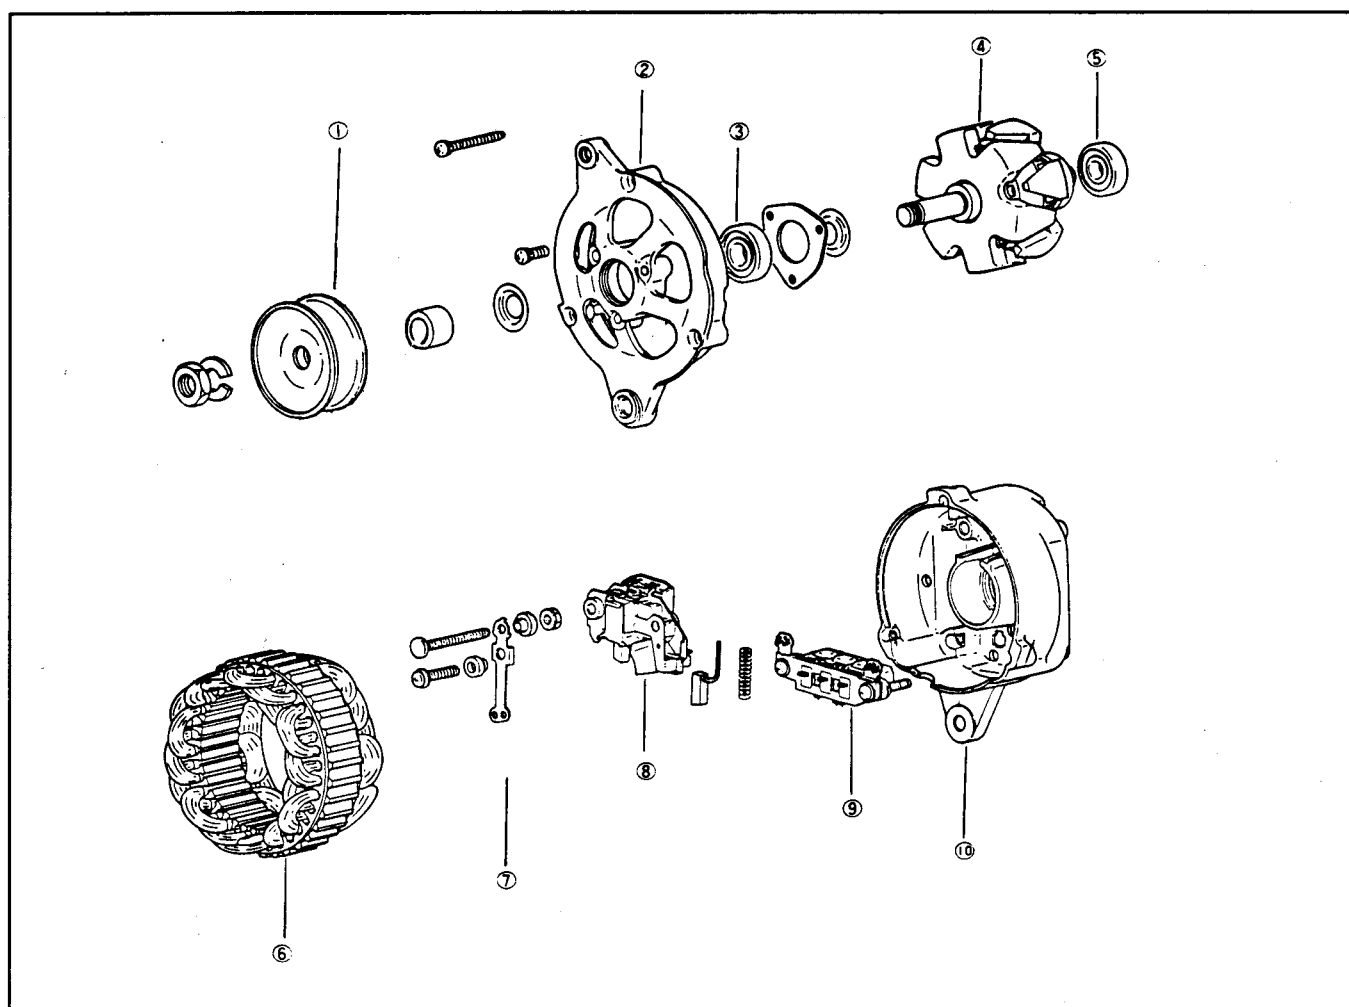

Figure 37
2. Remove the three through bolts (Fig. 37).